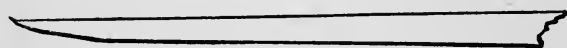

Fig. 40.
It is only necessary to remove the roundness just described. When this is done, the metal will begin to turn up a little on the back, making a roughness called a "wire-edge," as shown, exaggerated, in Fig. 40. This wire-edge is removed by laying the flat side on
3. To turn the stone *towards* the chisel, particularly near the end of the grinding. Turning it from the chisel will turn up a "wire-edge," as in Fig. 40.